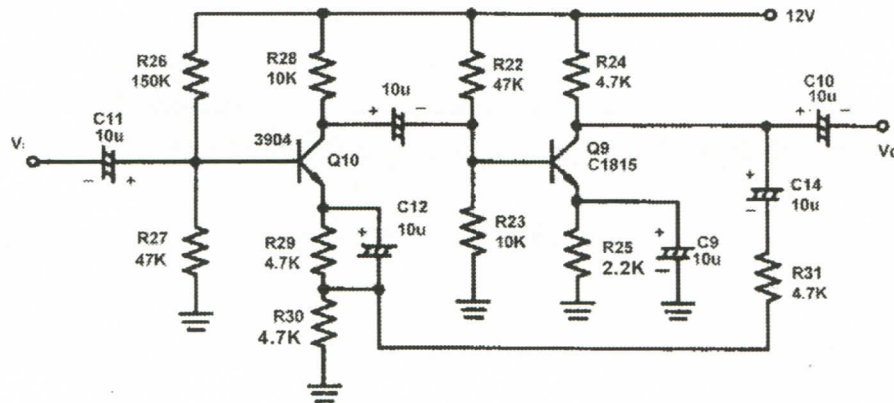

Fig 10-2
- (1) First fix the module KL-23007 in the KL-200 Linear Circuit Lab, then locate the block marked 23007-block b.
- (2) Insert the short-circuit clip by referring to Fig 10-2 and the short-circuit clip arrangement diagram 23007-block b.1. The negative feedback is disconnected (short-circuit clip is not connected to C14 R31 circuit).
- (3) Use multimeter (DCV) to measure V_{c10} and V_{c9} (Q9.Q10 collector).
- (4) Connect signal generator and oscilloscope in the input terminal (IN3), and connect oscilloscope to the output terminal (OUT). Adjust the output of signal generator to 1KHz sine wave and gradually increase the output voltage so that the oscilloscope can display maximum non-distorted waveform in the output terminal. View and record the waveforms in IN3 and OUT respectively.
- (5) Use oscilloscope to measure the waveforms in TP3 and TP7, then make records.
- (6) Connect the negative feedback circuit (short-circuit clip is connected to C14 R31 circuit).
- (7) Repeat Step (3) (4) (5).
- (8) Adjust the output of signal generator to 10Hz~20KHz, then view the waveforms of V_{in} and V_{out} for both the circuits with negative feedback and without negative feedback. Make records, and compare the frequency response of these two circuits. The frequency response curves of A_v corresponding to f shall be recorded in Table 10-1 (b) (c).